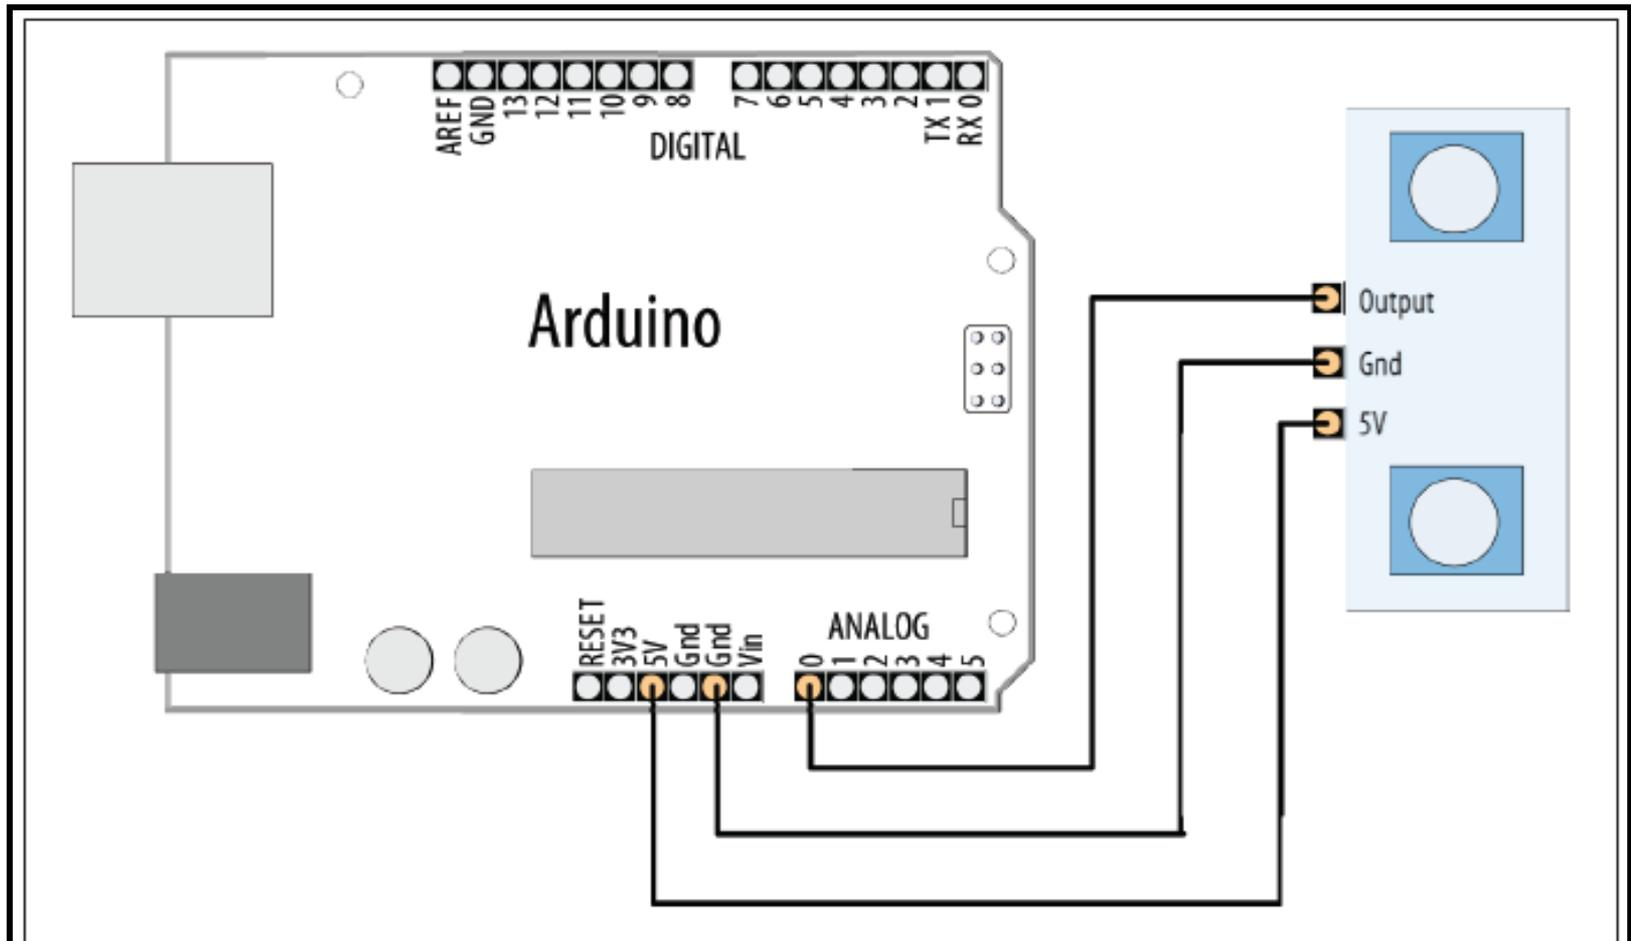

Figure 6-6. Connecting the Sharp IR distance sensor
- Infrared (IR) sensors generally provide an analog output that can be measured using `analogRead`. They can have greater accuracy than ultrasonic sensors, albeit with a smaller range (a range of 10 centimeters to 1 or 2 meters is typical for IR sensors). This sketch provides similar functionality to Recipe 6.4, but it uses an infrared sensor—the Sharp GP2Y0A02YK0F (Figure 6-6 shows the connections):.